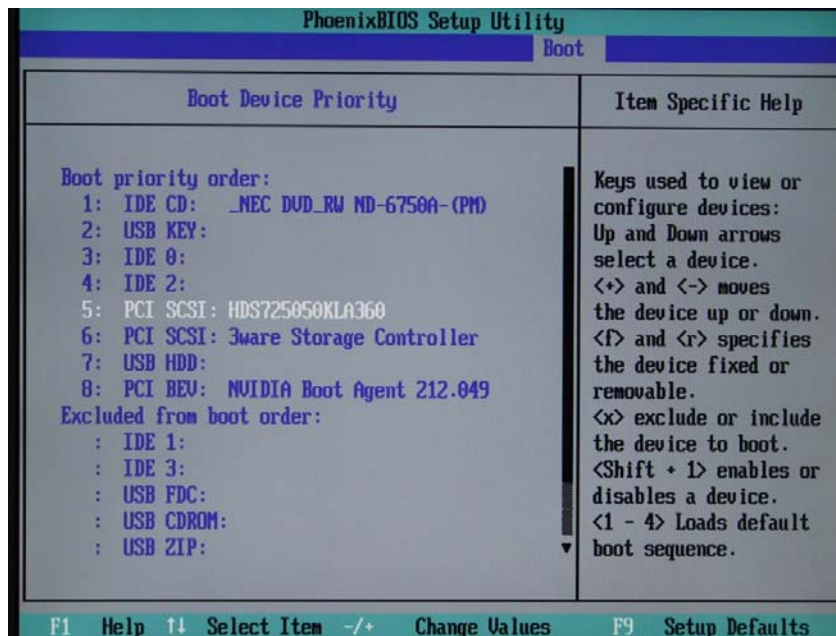

Figure 5-20
- 4) Check the boot order. It should appear similar to that shown in Figure 5-20 with the system drive (highlighted in this example) appearing just before/above the 3ware RAID controller. If not, rearrange the boot order accordingly.